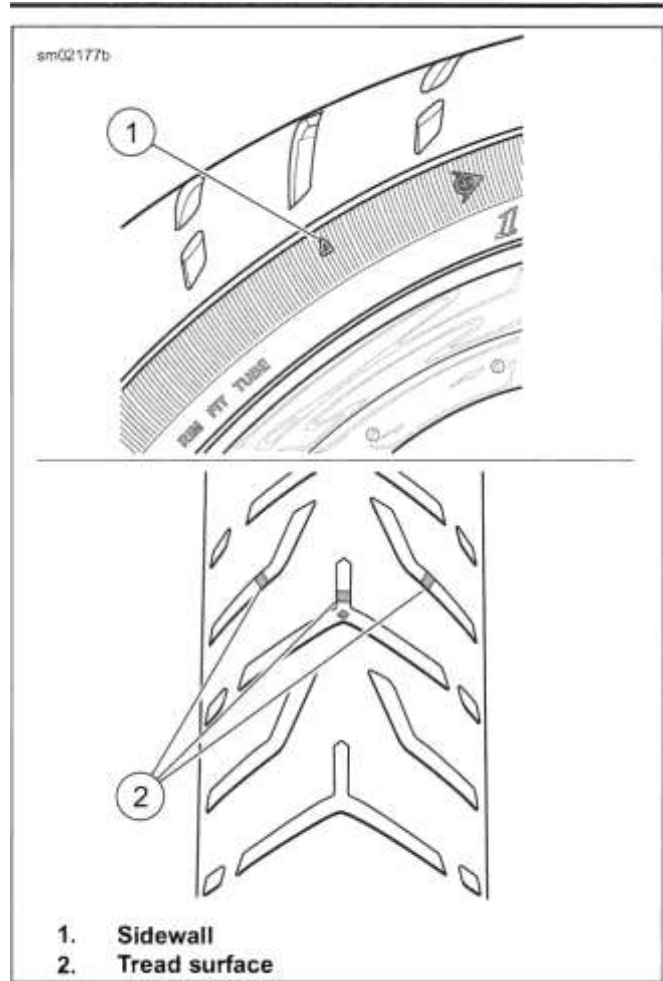

Figure 3-34. Tread Wear Indicators (Typical)
- See Figure 3-34. The tread wear indicators appear when A, in (0.8 mm) or less tread remains. Always replace tires before tread is worn to the indicators.